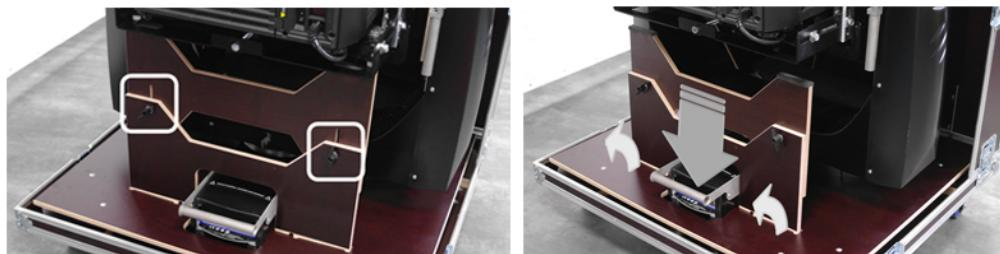

Figure 4-6 Remove Retention Plate
2. Unlock the retention plate (2 places), slide it down then remove it. (**Figure 4-6**)